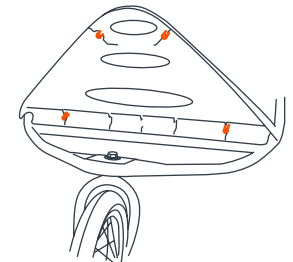

Fig. 5a
- 5) • Examine the bottom of the front fender. You will notice four 1/4 inch diameter plastic tubes protruding from the bottom. (Fig. 5a).